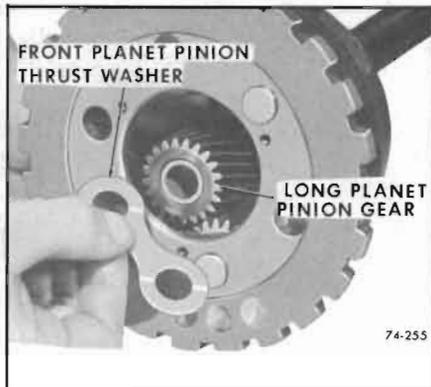

Figure 74-255
10. Remove front planet pinion thrust washer and long planet pinion gear. See Figure 74-255.
11. Remove needle bearings, spacer and two (2) thrust washers